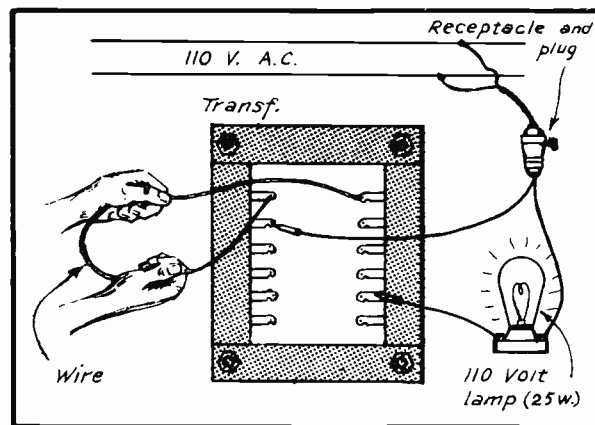

Fig. 7
WITH THE 110-VOLT LAMP CIRCUIT CONNECTED ACROSS THE PRIMARY TERMINALS OF THE POWER TRANSFORMER, TAKE A SHORT PIECE OF HOOK-UP WIRE AND MOMENTARILY TOUCH ITS ENDS ACROSS THE TERMINALS, AS ILLUSTRATED IN FIG. 7. UPON SO SHORT-CIRCUITING THE 6.3-VOLT WINDING, THE LAMP WILL BURN AT FULL BRILLIANCE.
7. - WHY DOES THE TEST LAMP IN THE SYSTEM OF FIG. 7 BURN BRIGHTLY WHEN A LOW-VOLTAGE SECONDARY WINDING IS SHORT-CIRCUITED, BUT BURNS DIMLY WHEN NONE OF THE SECONDARY WINDINGS ARE SHORT-CIRCUITED?